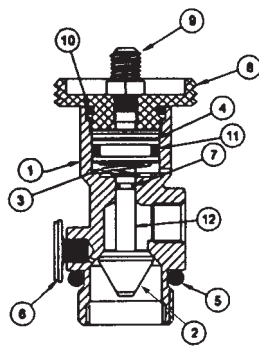

Figure 2-2. Valve Cross Section.
► All cylinders utilize the same valve assembly (P/N 550720). It is a pressure sealed poppet type valve designed to provide rapid actuation and discharge of agent. See **Figure 2-2**.